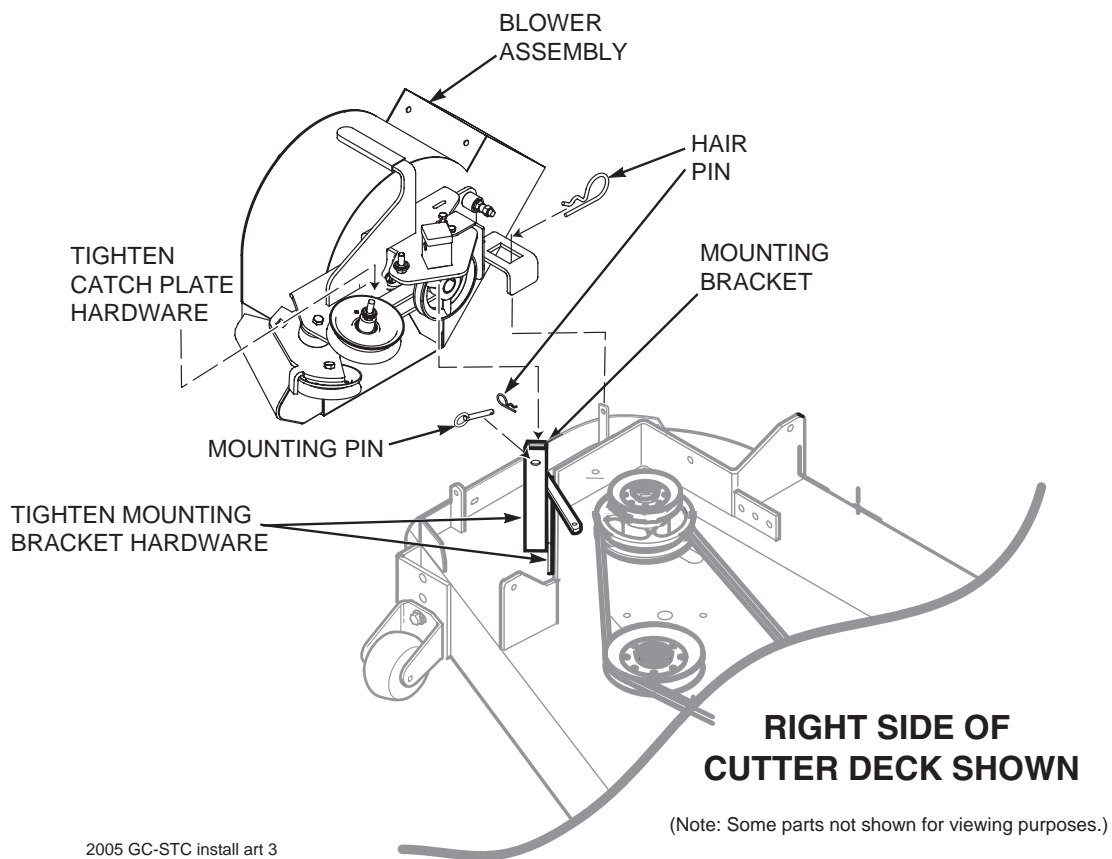

FIGURE 3-3
6. Install the blower assembly to the mounting bracket and secure with the mounting pin and hair pin. See Figure 3-3, Page 4.
7. Align the blower assembly with the discharge opening of the cutter deck. Tighten the hardware for the mounting bracket. Then tighten the hardware for the catch plate. See Figure 3-3, Page 4.
8. Install the large hair pin through the rear hole in the discharge chute mounting bracket. See Figure 3-3, Page 4.